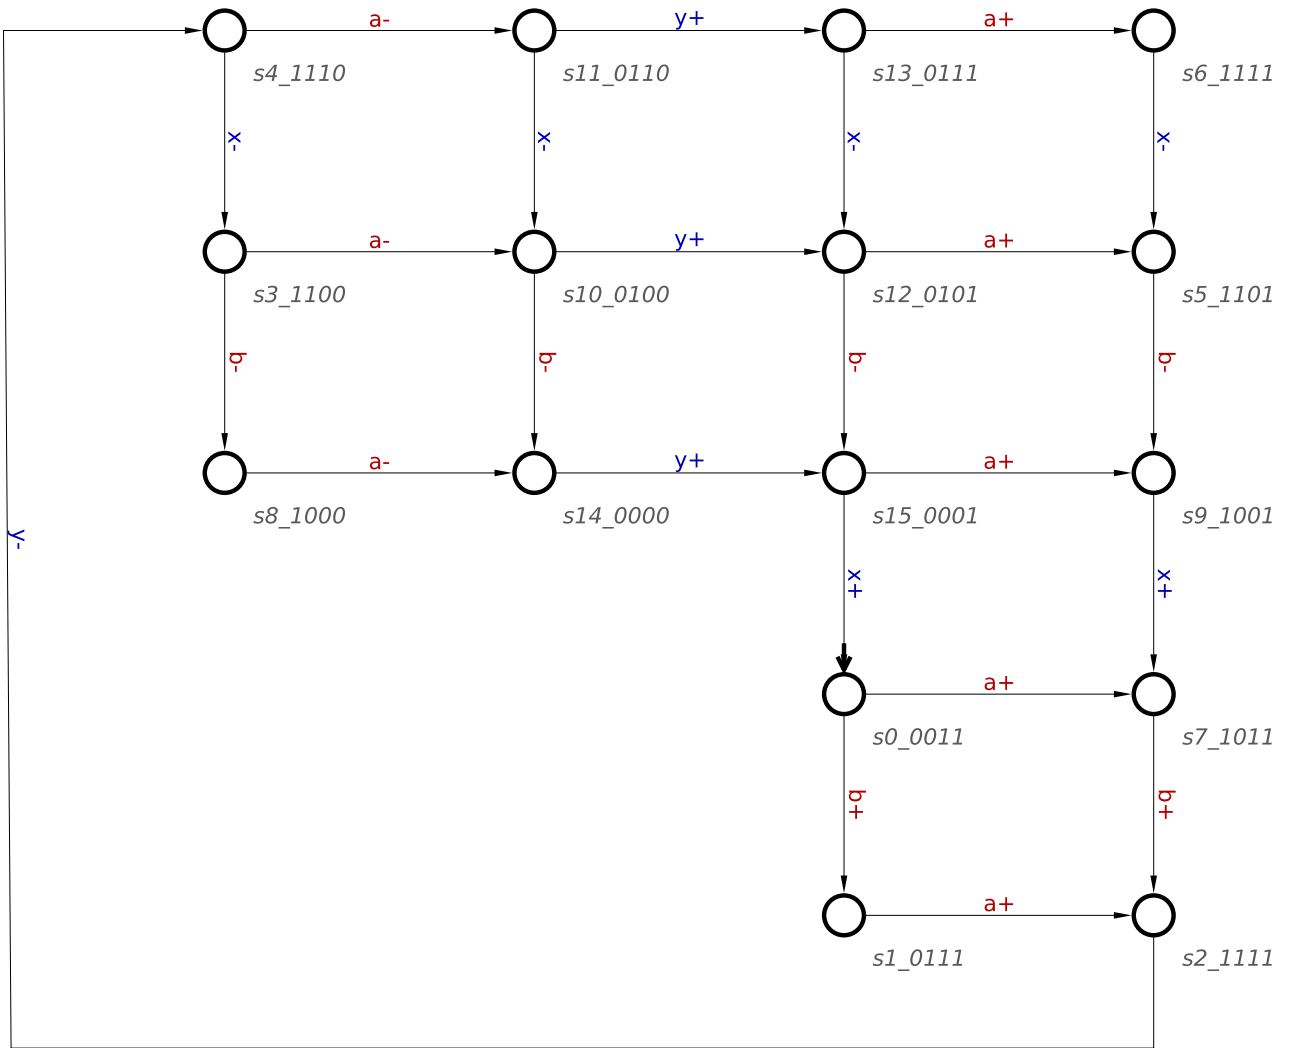

Figure 10: State Graph
- iii) Resolve the CSC conflict by introducing an additional edge in the STG (i.e., by reducing its concurrency). Draw the resulting STG and show how this changes the state graph (use the template in Figure 10 for that purpose, use the free space above the stage graph to draw the STG).